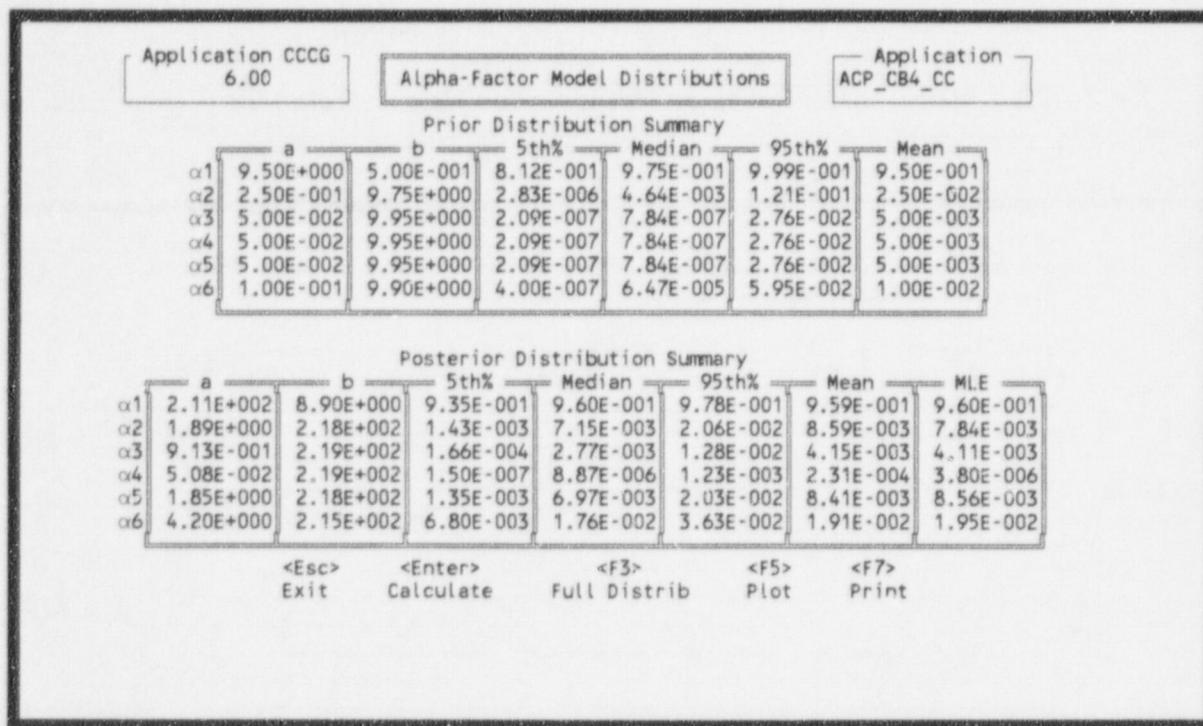

Figure 56. Specific—Homogeneous Bayesian Distribution.
**4.2.1.3 Homogeneous Bayesian Distributions.** The results of Homogeneous Bayesian calculations are displayed in Figure 56.